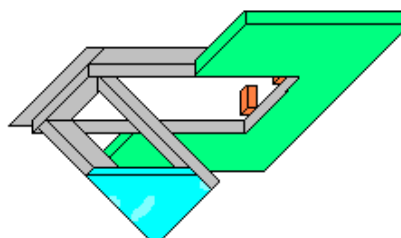

Fig. 3.
3. Into the cut hole a flap should be pushed, to allow half-opening part (1) to be oriented outside, and matched to the cut hole. If the flap has been matched correctly to the cut hole, then mounting may take place. To do so, one must open flap's door and keep permanent part (2) with hand or screw it with a joiner clamp to the gypsum plate and screw on with screws (figure 3).